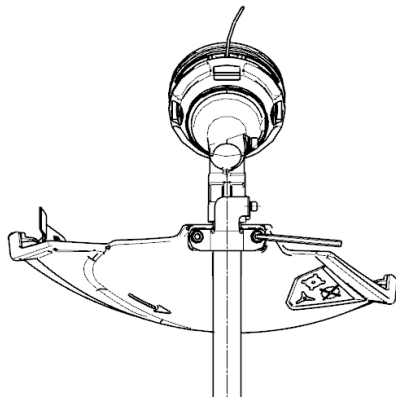

Fig.6
1. Lift the trimmer head and face it downward; align the two mounting holes in the guard with the two assembly holes in the base of shaft. Make sure that the internal surface of the guard faces towards the trimmer head, use the supplied #2 Allen key lock the guard bolts in place (Fig. 6).